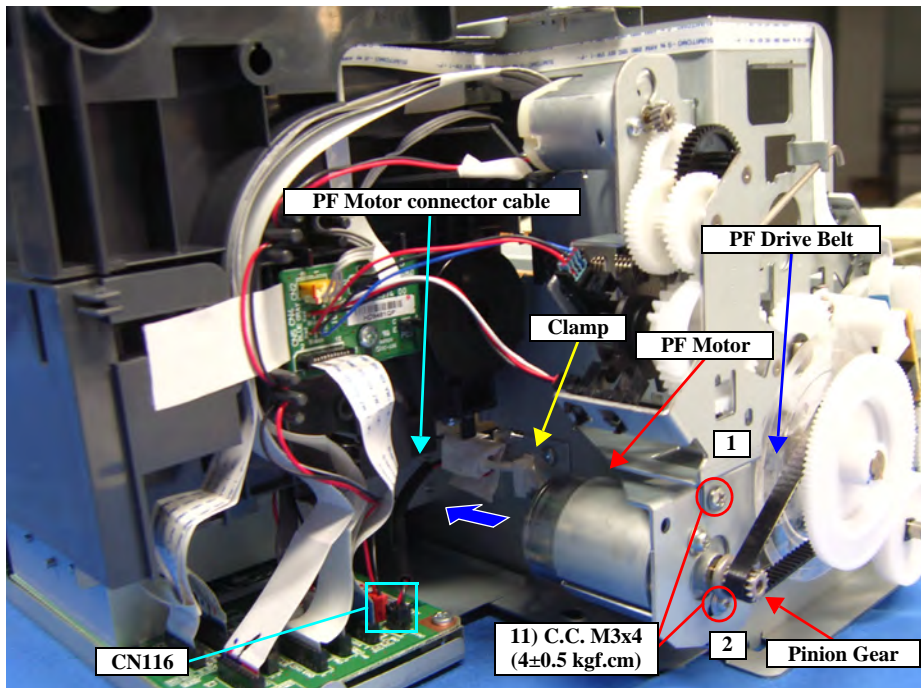

Figure 4-152. Removing the PF Motor
- Tighten the screws in the order shown in Figure 4-152